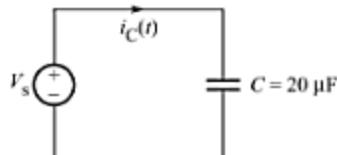

Fig. E-14
- E-7. Figure E-14 shows a 20- $\mu$ F capacitor that has a voltage  $v_s(t) = 0$  V,  $t < 0$ ;  $v_s(t) = 10^{4t^2}$  V,  $0 < t < 0.1$  s;  $v_s(t) = 100$  V,  $t > 0.1$  s. (a) Find the